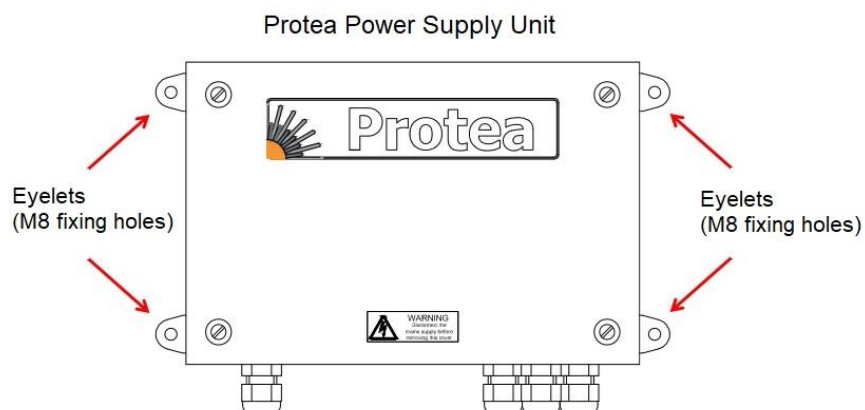

Figure 3-3 Mounting of the Power Supply Unit
4. You should then mount the Power Supply Unit to a wall or other suitable structure (as shown in figure 3-3). The PSU should be located close to the analyser unit. The maximum length of the power cable from the PSU to the analyser must not exceed 5 metres (~16 feet).